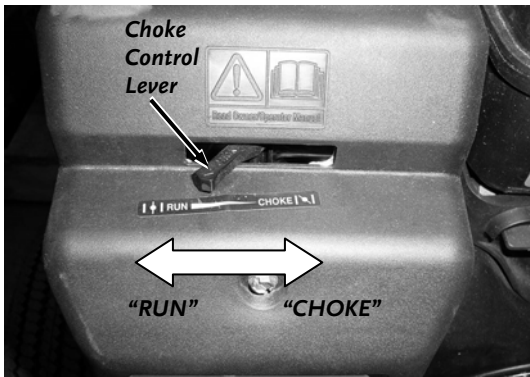

Figure 16
2. Move the Choke Control Lever to the “CHOKE” position (**Figure 16**) (leave in the RUN position if the engine is already warm).
5. As the engine warms up, slowly adjust the Choke to the “Run” position (**Figure 16**). Wait until the engine runs smoothly before each Choke adjustment.